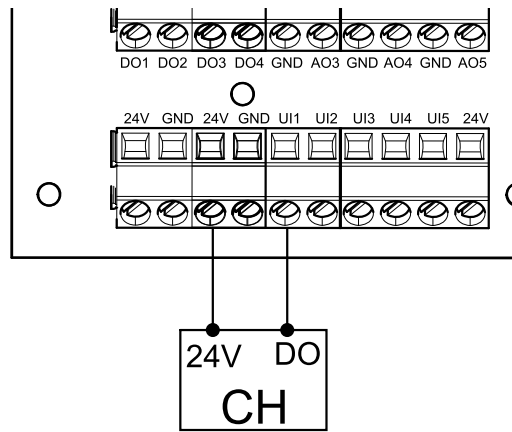

Fig. 18 Connection of the cooker hood
1. Connect control signal wires from the cooker hood to any free universal input and 24 V on the external connection board (figure 18). For more information about connection board see 8.2 *External connections (Connection board)*, page 49.